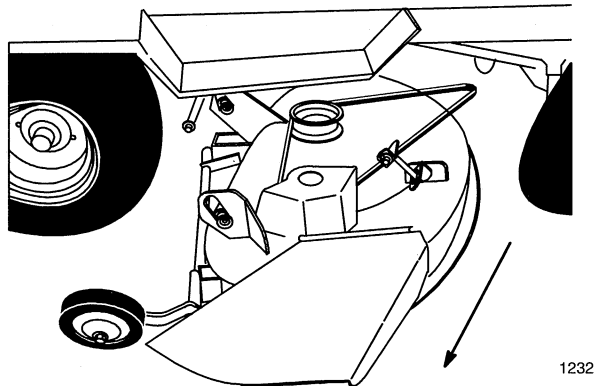

Figure 16
8. Turn the front wheels fully to the left and raise attachment lift lever all the way to the latched position; refer to tractor Operator's Manual. Slide the mower out from under the chassis to the right side (Fig. 16)